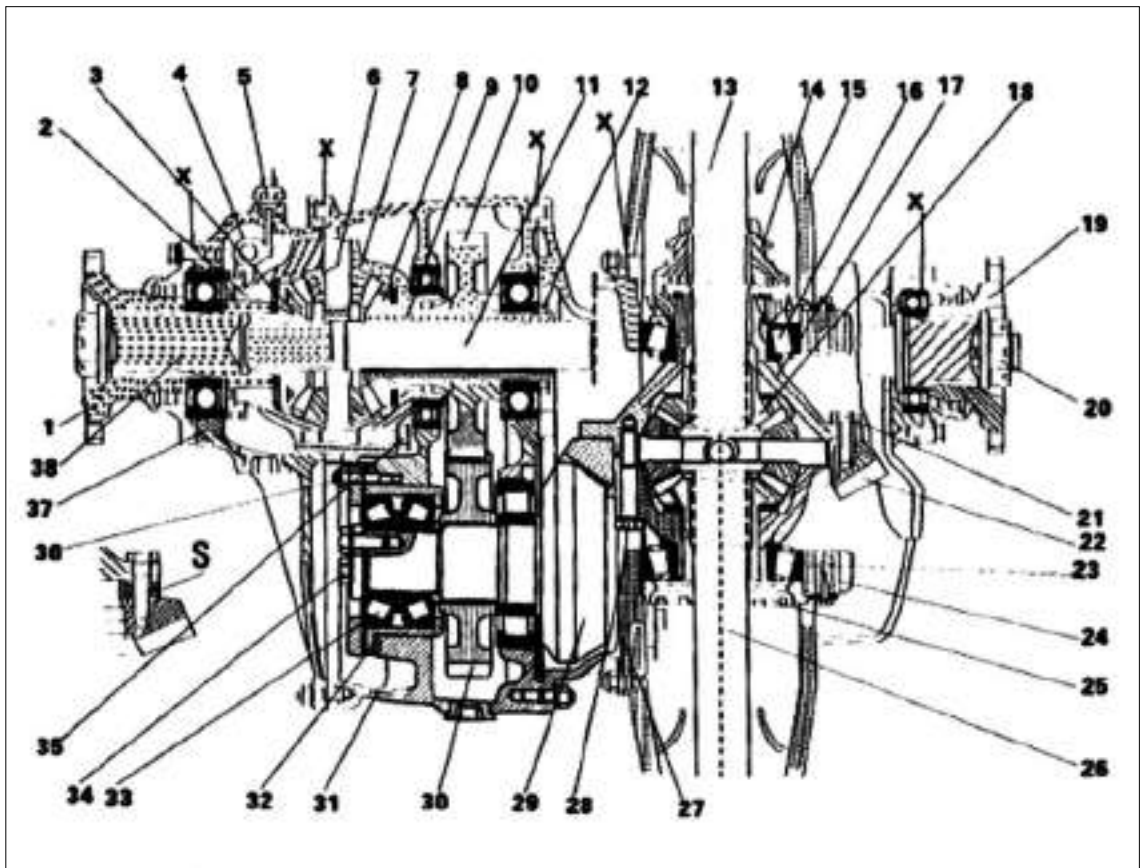

Figure 3-2 (A) Structure diagram of drive middle axle
Structure of middle axle is very complex. Figure 3-2 (A) shows structure diagram of drive middle axle, figure 3-2 (B) shows its resolution graph.
As figure 3-2 (A) shown, power is transferred to flange assembly 1 by propeller shaft, then drive differential housing (front ) 38 to rotate through castellated shaft. In fact, differential housing (front) 38 is front half housing of inter-axle differential, and links with rear half housing of differential 35 by hexagon stud. In inter-axle differential, the same spider planetary gear meshed with two half- shaft gears, so to drive half shaft gear 3 & 8 to rotate together. Front half shaft gear 3 links with thru shaft 11 of drive rear axle through spline, thus to transfer power to rear drive axle. Rear half shaft gear 8 links with hollow shaft 9 through spline. Hollow shaft 9 links with driving cylindrical gear 10 through spline, thus transfer power to driving bevel gear shaft 29 via driven cylindrical gear 30, and then transfer power to left & right shaft